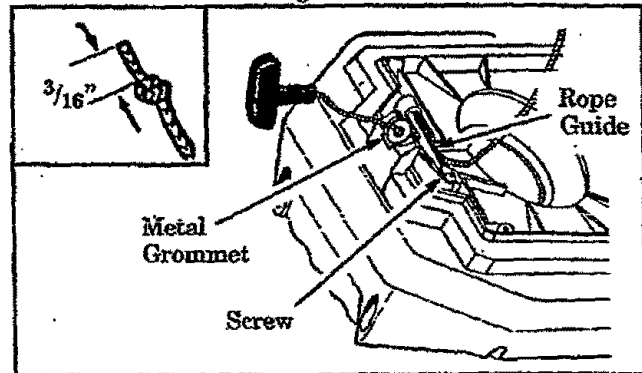

Figure 18
10. Insert one end of the rope through the handle and secure with a knot. Leave 3/16" pigtail behind the knot. Figure 18 (Inset).
11. Insert the other end of the rope through the metal grommet, then under the Rope Guide. Figure 18.